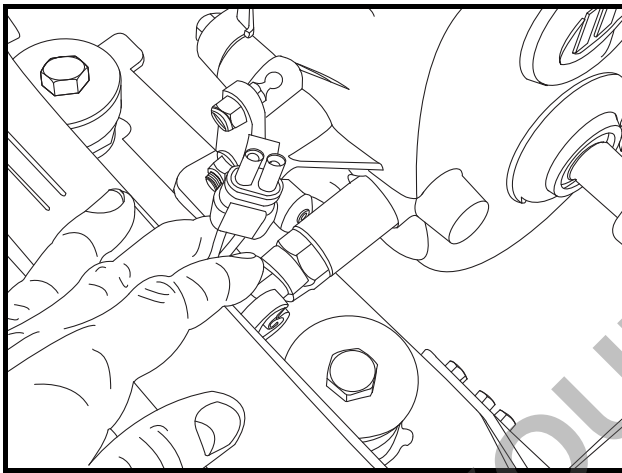

Figure 14-18 Neutral Sensing Connector
12. Disconnect the neutral sensing connector from the transmission (**Figure 14-18, Page 14-13**).